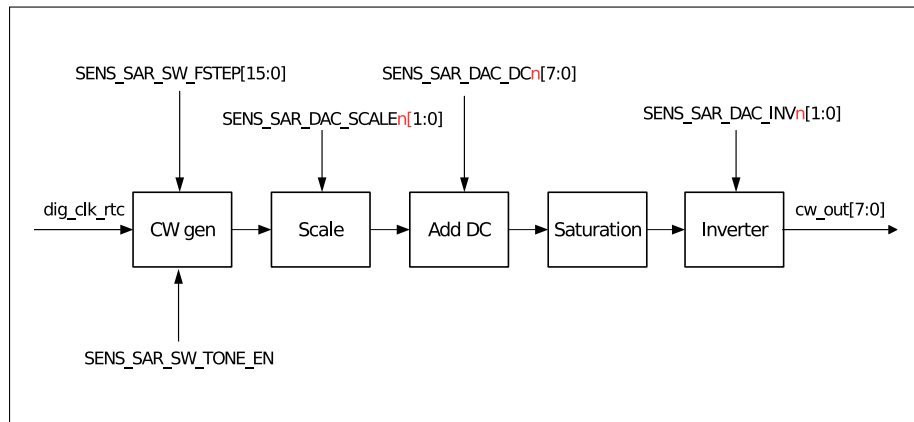

Figure 137: Cosine Waveform (CW) Generator
The cosine waveform (CW) generator can be used to generate a cosine / sine tone. A diagram showing cosine waveform generator's function is presented in Figure 137.